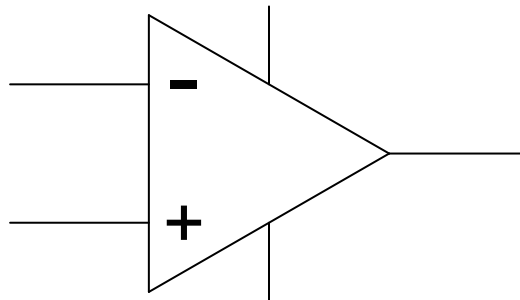

Fig. 11
- (b) (i) Fig. 11 shows the circuit symbol for a comparator.